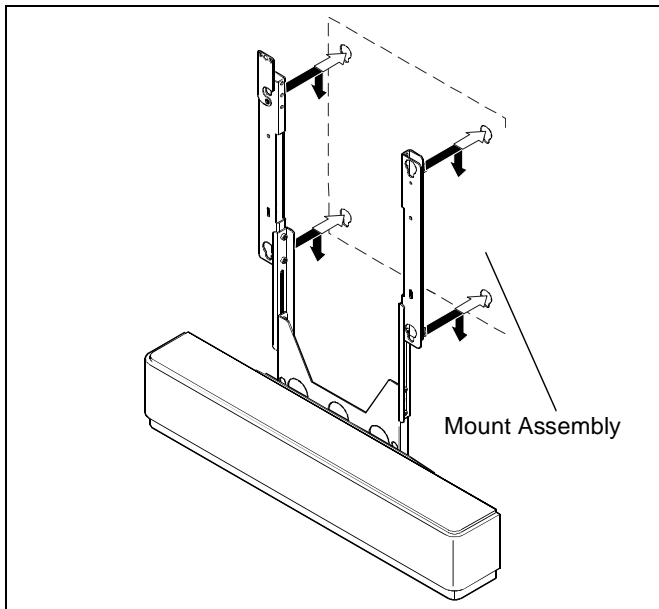

Figure 10
1. Install PACY3 onto mount following the instructions provided with the mount. (See Figure 10)